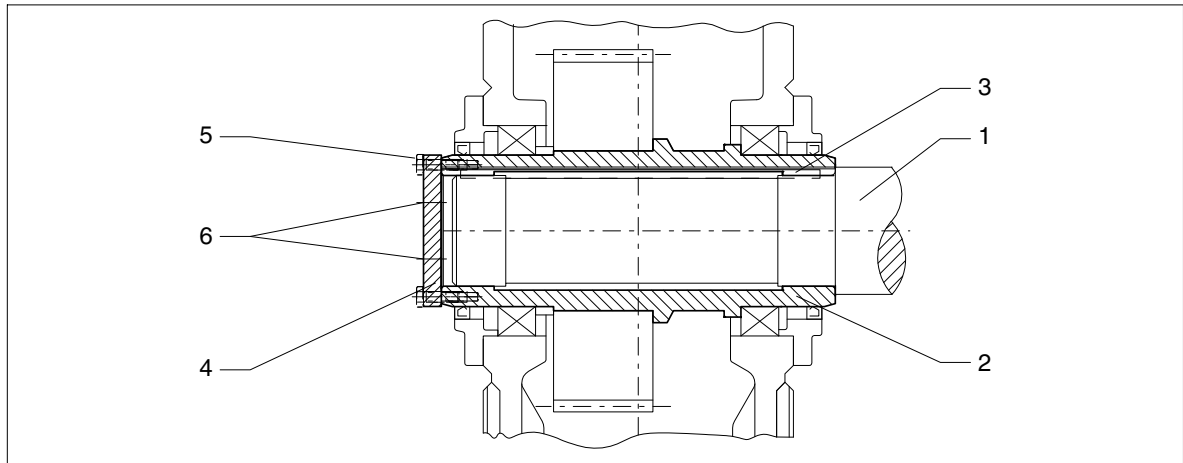

Fig. 43: Hollow shaft with parallel keyway, demounting with end plate
- using forcing-off screws in an end plate (see figure 43), or